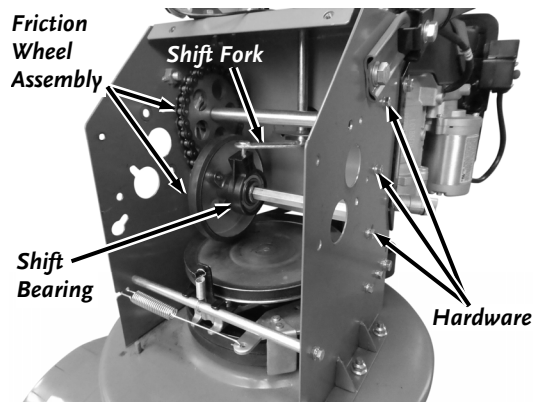

Figure 74
13. Remove the six Bolts, Lock Washers and Flat Washers (three each side) that secure the Friction Wheel Assembly using a 10mm Wrench (**Figure 74**).
5. Install the Friction Wheel Assembly into the machine (**Figure 74**). **IMPORTANT!** - As you position the Friction Wheel Assembly into the machine, ensure that the Chain is on the left side of the machine and the Shift Fork Pin is inserted into the Shift Bearing slot.